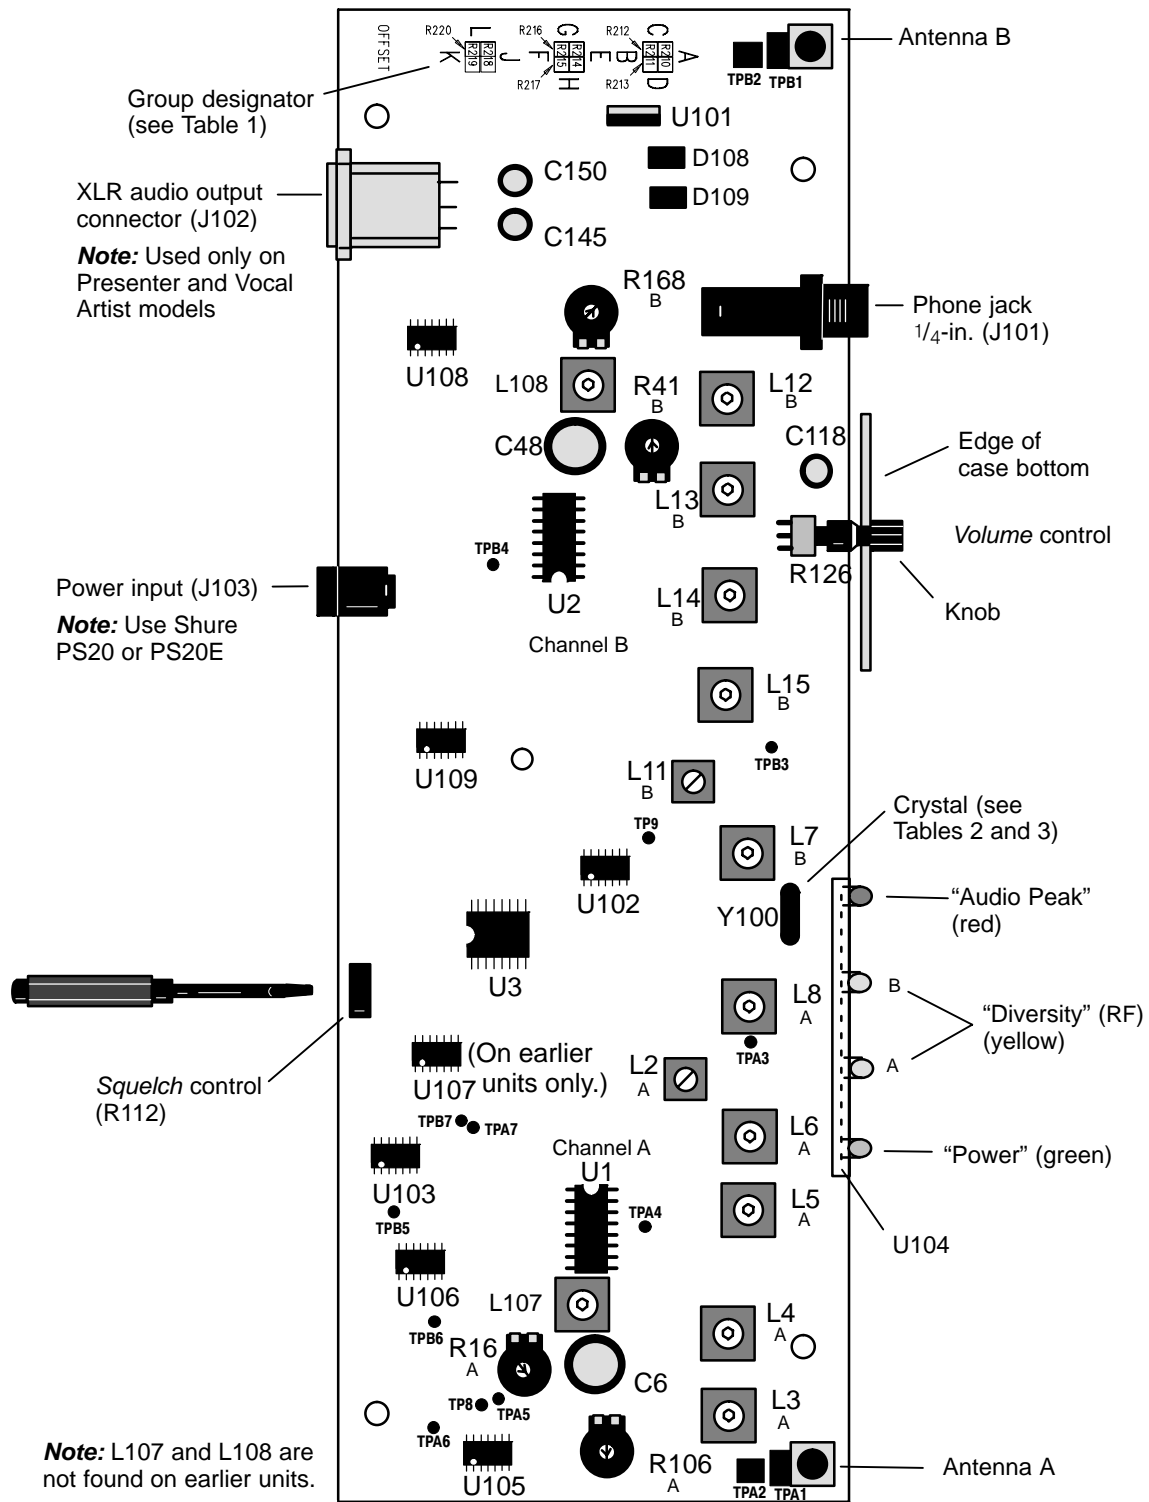

Figure 4. Major Components
Each receiver's circuit board has a resistor next to the group letter (A–H, J–L) that identifies the range of frequencies on which the receiver can operate (see Figure 4). Table 1 shows the Group Letter and its associated frequencies. Note that this chart applies only to T4 receivers.
1. Obtain a 50 Ω coaxial cable for connecting the circuit boards to various test equipment. (To construct this cable, see "50 Ω Test Cable Assembly" in the *Service Equipment* manual.) Refer to Figure 4 for the locations of the test points, controls, and tuning components.